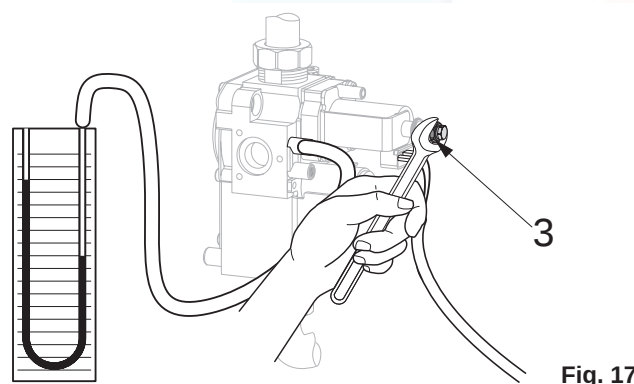

Fig. 17
- put pressure on nut 3 by using an 8 wrench (fig. 17) and adjust the pressure to the value envisaged in the table